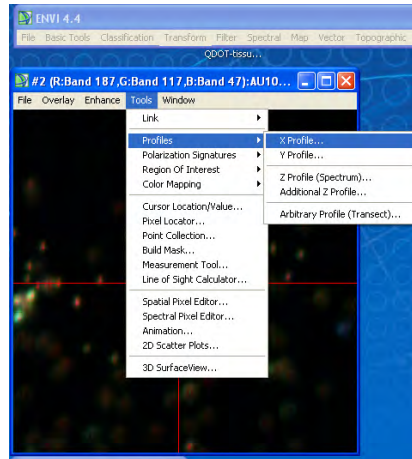

Figure 19. The Profile List is under Tools in the Image tool bar.
1. Click on Tools, then high light Profiles (see Figure 19)